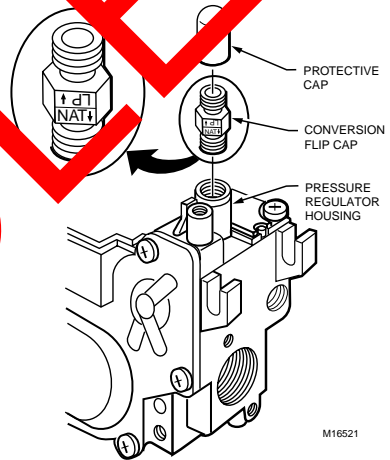

Fig. 1. Converting the gas valve (shown assembled for natural gas).
If the factory pressure regulator setting meets the appliance manifold requirement, convert the gas valve as follows (see Fig. 1):
3. Install sediment trap in the supply line to the gas control. See Fig. 1.